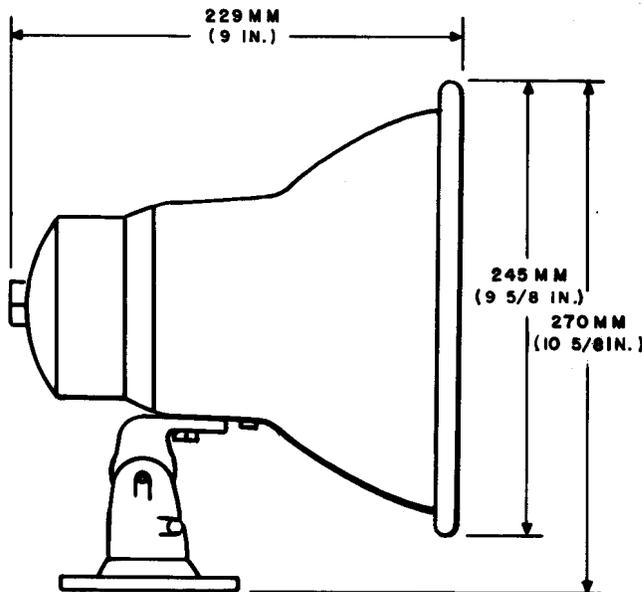

Fig. 6—KS-21939L2 Loudspeaker
2.16 The KS-21939L2 loudspeaker (Fig. 6) is a horn-type speaker used for paging at indoor or outdoor locations. It is 7-1/2 inches in diameter, 7 inches deep, and weighs 3-1/4 pounds. The loudspeaker is equipped with a swivel mounting bracket having three holes in the outer rim for mounting on a flat surface. The loudspeaker will also fasten to a 1/2-inch pipe. Pigtail leads are provided for connections. Nominal frequency response of the loudspeaker is 400 to 13,000 Hz. The KS-21939L2 loudspeaker has a screwdriver adjusted volume control. It was formerly known as the KS-16846L2 loudspeaker which did not have a volume control. The KS-21939 loudspeaker is also available as a List 1 which is the same as the List 2 except it has no volume control, and as a List 3 which is the same as a List 2 except it is equipped with a rigid conduit mounting adapter.